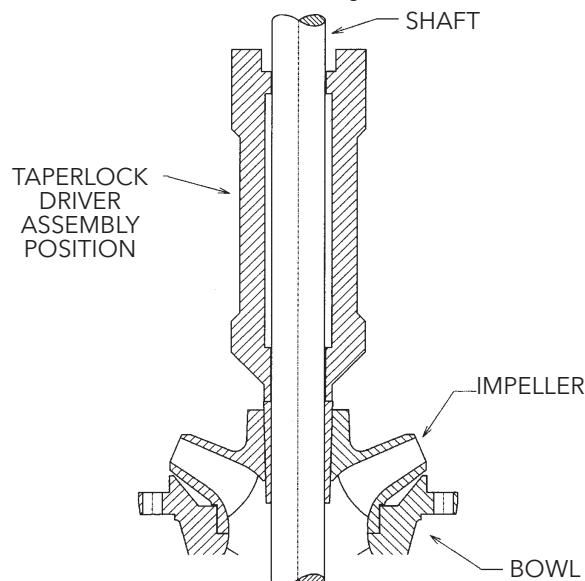

Figure 5 – Install the Impeller
D. Hold impeller firmly against the motor adapter and drive the taperlock into place with the taperlock driver. *See Figure 5.* After the impeller is secured in position, the top end of the taperlock should be  $\frac{1}{8}$ " above the impeller hub.